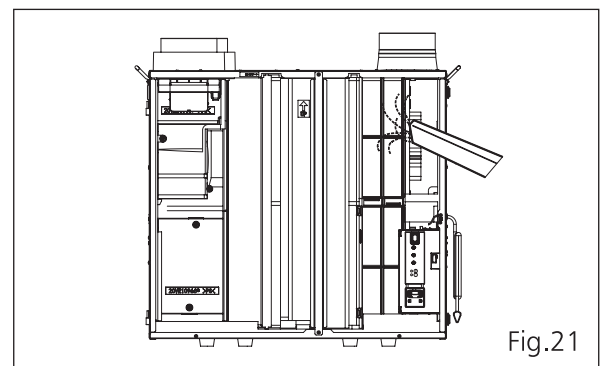

Fig.21
2. Remove OA filter and RA filter to clean with vacuum cleaner. (Fig.21)
3. Clean OA filter and RA filter with vacuum cleaner. (Fig.21)